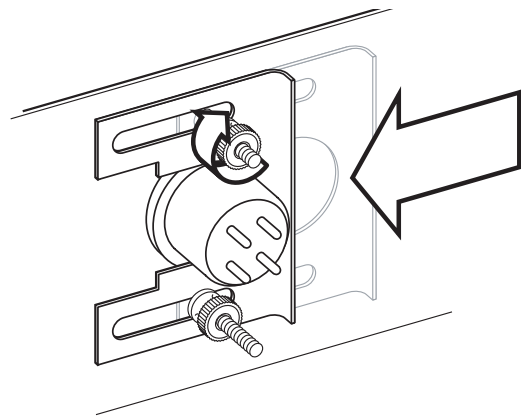

Fig. 5 Lamp is secured with a sliding bracket tightened with two knurled nuts.
**INSTALLING THE REMOTE-LAMP (Fig.5)**